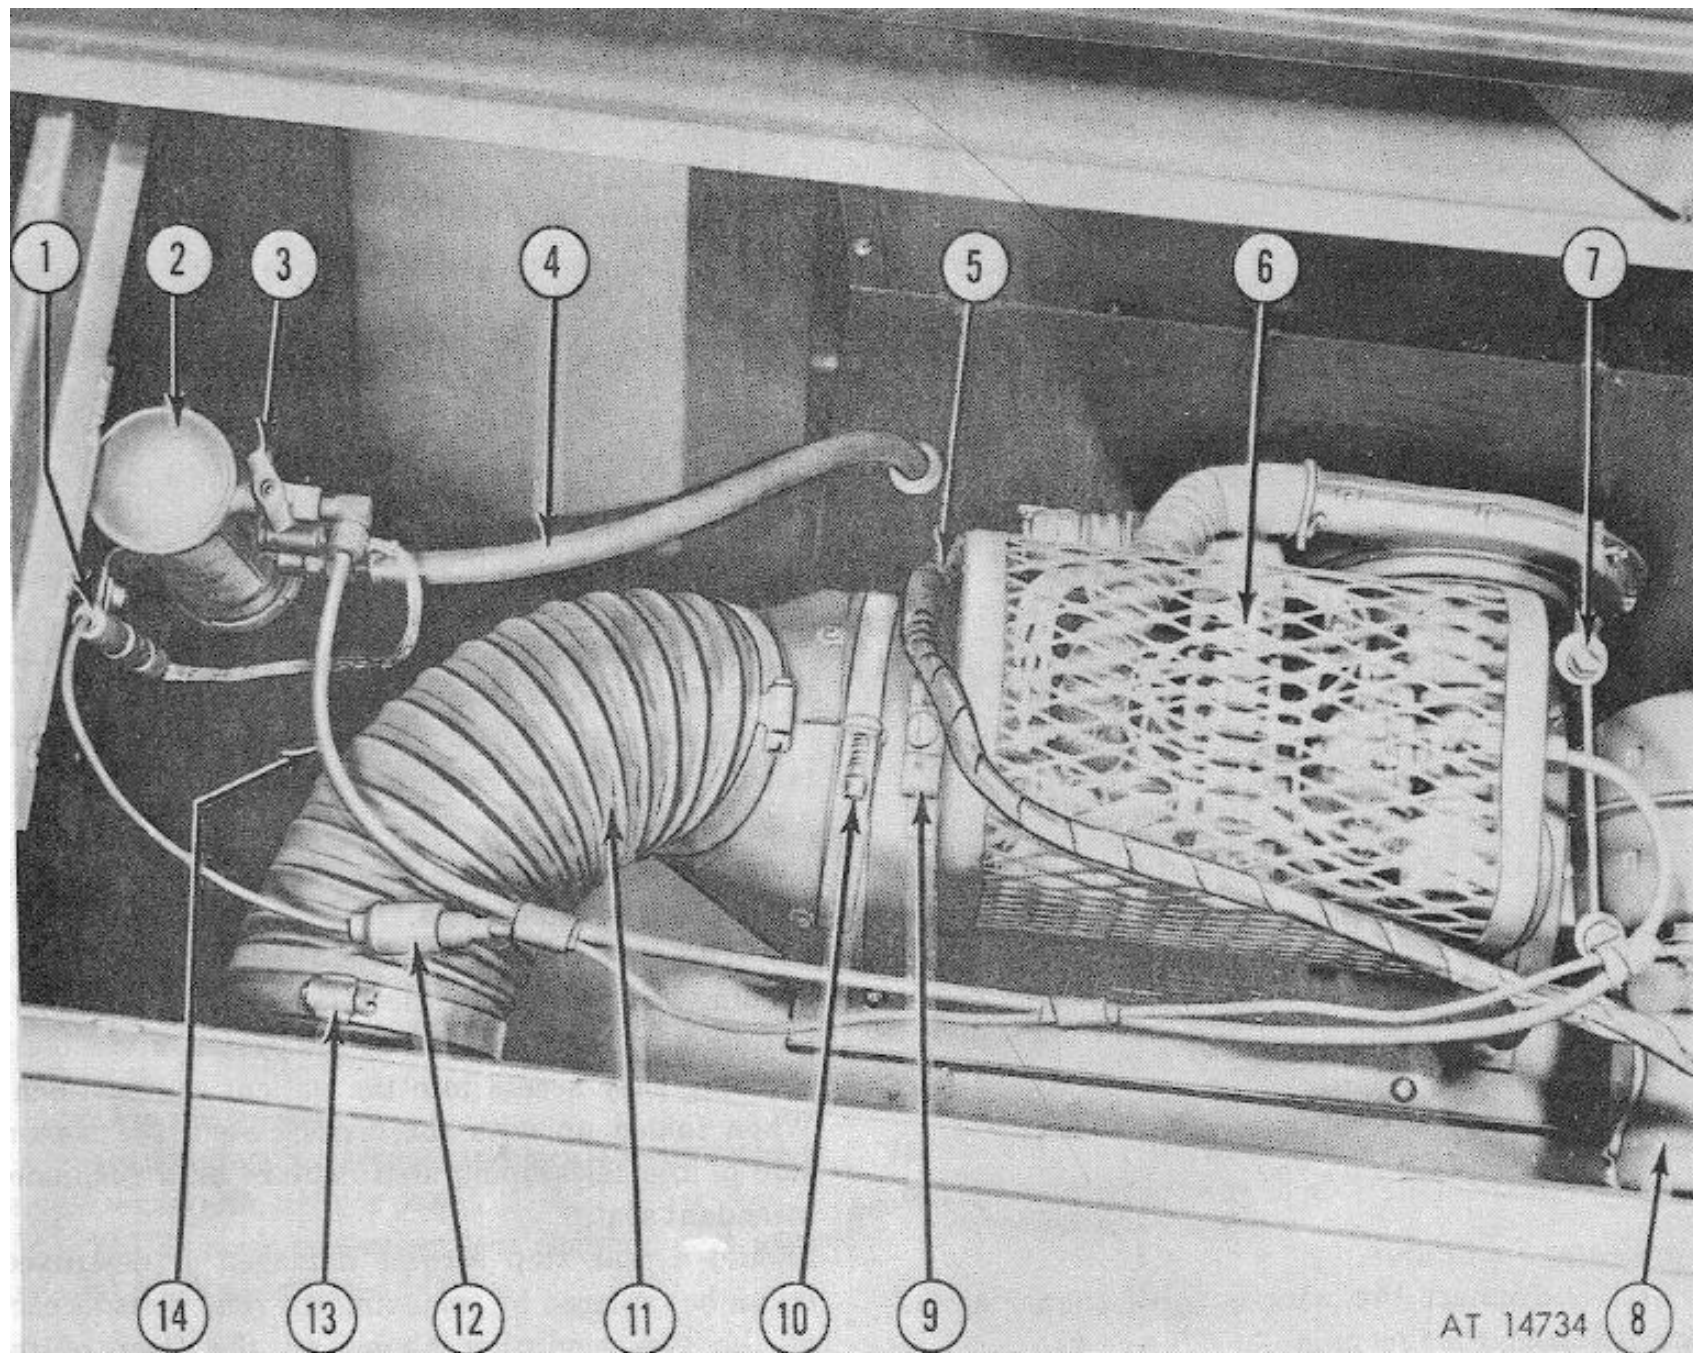

FIGURE 2-101. Patient Compartment Heater.
f. Patient Compartment Heater. (Fig 2-101)
- (1) Remove left front patient seat cushion.
- (2) Shut off fuel line at shut-off valve (3) located at heater fuel pump.
- (3) Turn the two fasteners (9), located at each end of the cover, counter-clockwise with a screw driver and remove.
- (4) Remove the two holddown bolts (7), at the blower end.
- (5) Remove the holddown clamp at the other end,
- (6) Disconnect the clamp (13) on the large flexible duct at the heater.
- (7) Disconnect the wire harness connector (12).
- (8) Disconnect the fuel inlet line at the fuel shutoff valve on the heater.
- (9) Pull the heater towards the front and lift up to disengage from the exhaust outlet.
- (10) Remove the O-ring gasket from the exhaust extension at the underside of the heater and discard.
- (1) Disconnect the wire harness connector (12 fig 2-101) from the fuel pump.
- (2) Disconnect the tubing at the inlet and outlet connections.
- (3) Remove both screws and cable clip to the mounting bracket and remove the pump.
- (1) Position blower motor housing to ambulance body front panel and install screws. Tighten securely.
- (2) Install two screws which secure rear end of blower motor housing to side panel bracket.
- (3) Connect wiring harness to blower motor terminals.
- (4) Position forward portion of ventilation duct and install sheet metal screws which secure duct to ambulance body front, roof and side panels.
- (1) Install a new O-ring gasket on the exhaust outlet extension on the heater.
- (2) Position the heater unit making certain to aline the exhaust outlet extension with the exhaust outlet pipe in the floor.
- (3) Replace the two hold-down bolts and clamp at the blower end.
- (4) Install the hold-down clamp at the other end and tighten.
- (5) Install and tighten the clamp on the large flexible duct.
- (6) Connect the wire harness connector.
- (7) Connect and tighten the fuel line.
- (8) Start the heater according to the operating instructions and run for a few minutes.
- (9) Stop the unit. Replace the cover and turn the two fasteners clockwise with a screwdriver to tighten.
- (1) Adjust the fuel pump in the mounting bracket and tighten the two screws.
- (2) Connect the inlet and outlet tubing.
- (3) Connect the wire harness connector (12 fig 2-101).